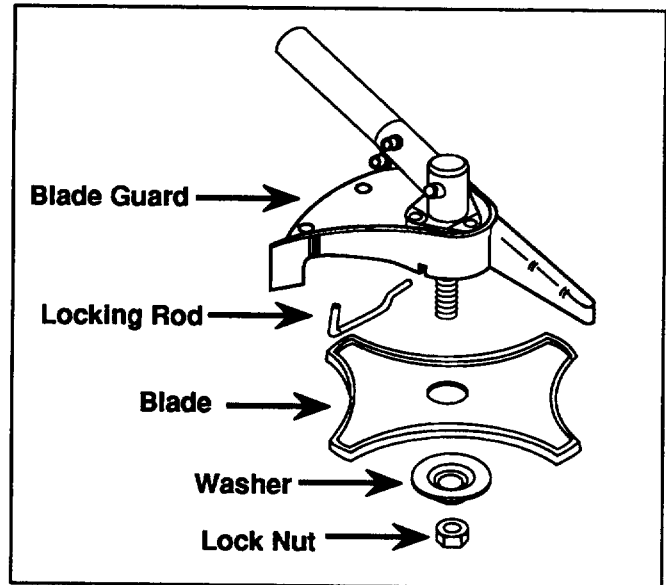
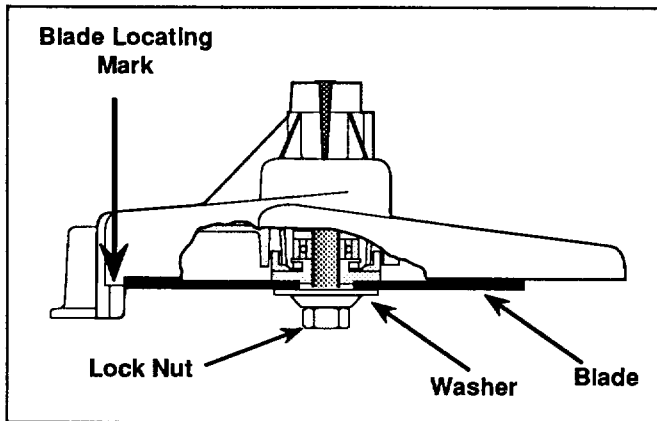

Fig. 5
Fig. 6
3. Make sure you have all of the parts necessary to install the optional brush blade (Fig. 5).
4. Install the blade, washer, and lock nut. Insert the locking rod into the locking rod slot (Fig. 5). Make sure that the blade stays flat against the washer while tightening the lock nut **counterclockwise** until it is finger-tight.
5. Tighten the lock nut while you hold the locking rod in the locking rod slot (Fig. 5).
6. When properly assembled, the edge of the metal brush blade must line up with the blade locating mark on the casting and should be within a blade thickness of the mark (Fig. 6). If the blade isn't lined up correctly, refer to Fig. 5 for reassembly.
1. Install the blade tooth cover over the metal brush blade. Insert the locking rod into the locking rod slot. Loosen the lock nut by turning it **clockwise** (Fig. 5).
2. Remove the lock nut, retaining washer and brush blade (Fig. 6).